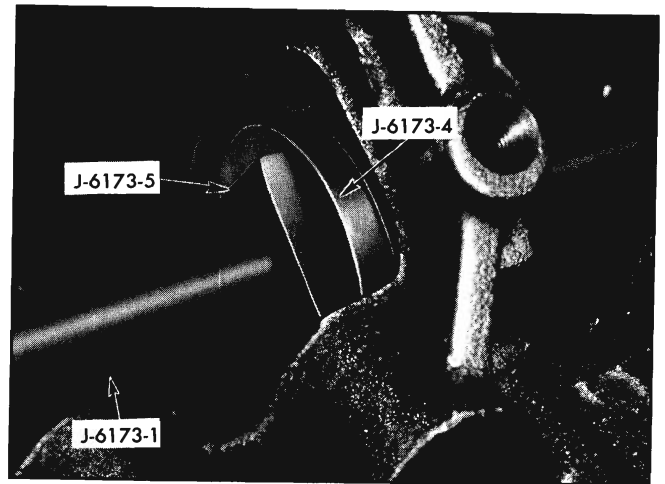

Fig. 6-42 Tools Positioned for Bearing Removal
5. Slip Key J-6173-5 into notches in shaft behind bearing to be removed (Fig. 6-42).